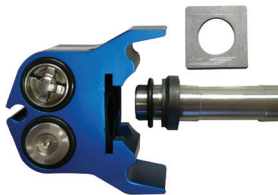

Figure 2
2. Holding each head, pull them apart to remove plunger. Remove retaining plate from pump head. Remove internal seal parts with finger. Discard parts, but keep head and retaining plate. Figure 2 shows pump heads pulled apart showing plunger, retaining plate and internal seal.